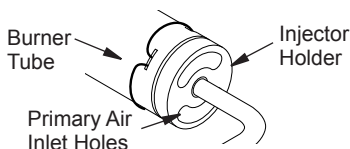

Figure 30 - Injector Holder On Outlet Burner Tube
- Press in and turn control knob clockwise  to the OFF position (see Figure 30).
- Wait five (5) minutes to clear out any gas. Then smell for gas, including near the floor. If you smell gas, STOP! Follow "B" in the safety information, page 20. If you don't smell gas, go to the next step.
- Press in and turn control knob counterclockwise  to the PILOT position. Press in control knob for five (5) seconds (see Figure 30).
2. Inspect burner, pilot and primary air inlet holes on injector holder for dust and dirt (see Figure 30 on page 23).